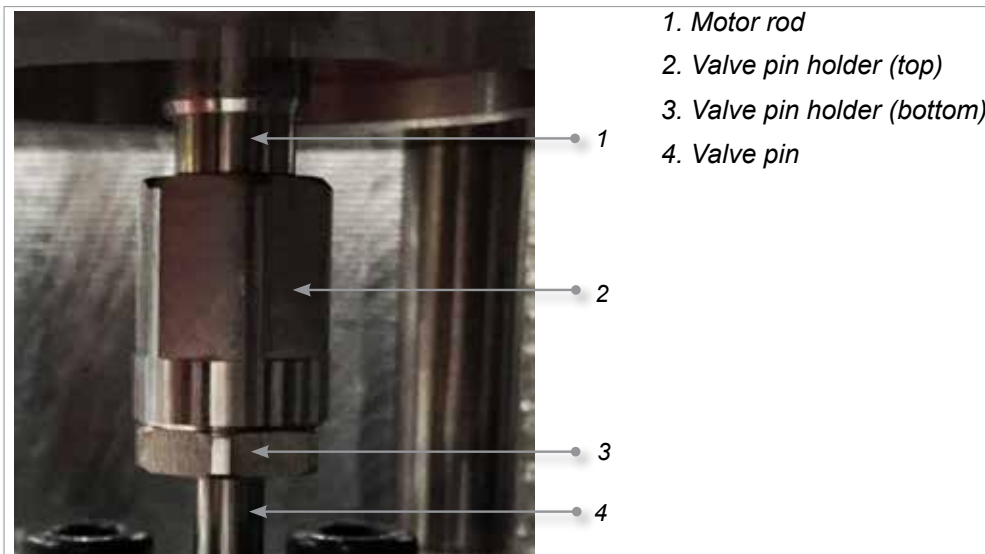

Figure 6-9 Valve pin holder components
2. Install the valve pin holder assembly onto the motor. Torque to 8 to 10 Nm [6 to 7 ft-lbs]. See Figure 6-9.